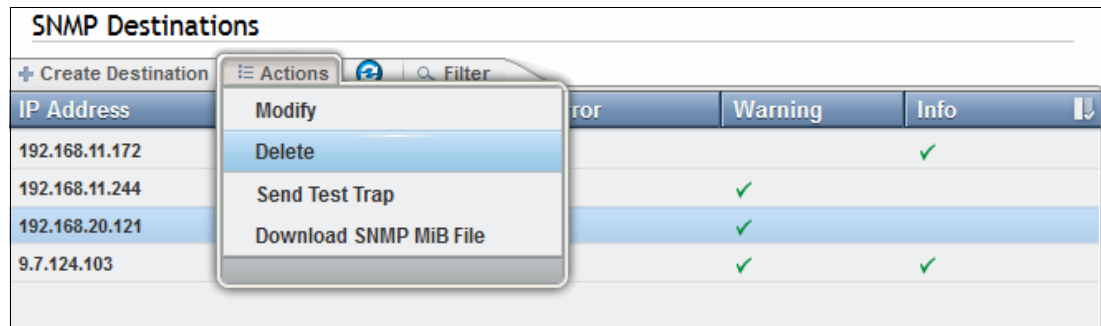

Figure 4-28 SNMP Traps actions
4. From the SNMP Traps window, select **Actions** to modify or delete an existing destination server, send a test trap, or download the SNMP MIB file. Figure 4-28 shows these options.
To download the configuration MIB file, select **SNMP Traps**, as shown in Figure 4-28 on page 204. Then, with the IP address highlighted, select **Actions** → **Download SNMP MiB File**.